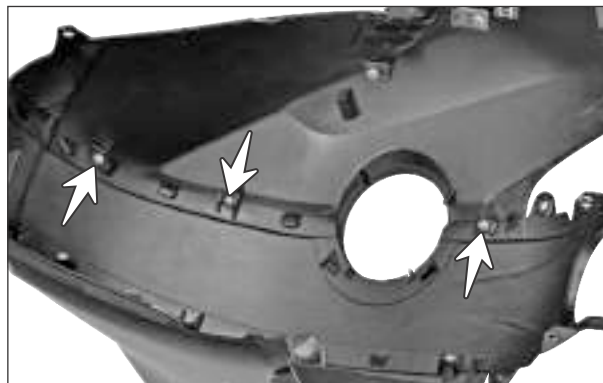

Fig. 2.17
- Remove the CRR flanged pan head tap screw (ST4.2x13 - 3 nos.) from the mounting of cover fuel tank outer R. (Fig. 2.17)